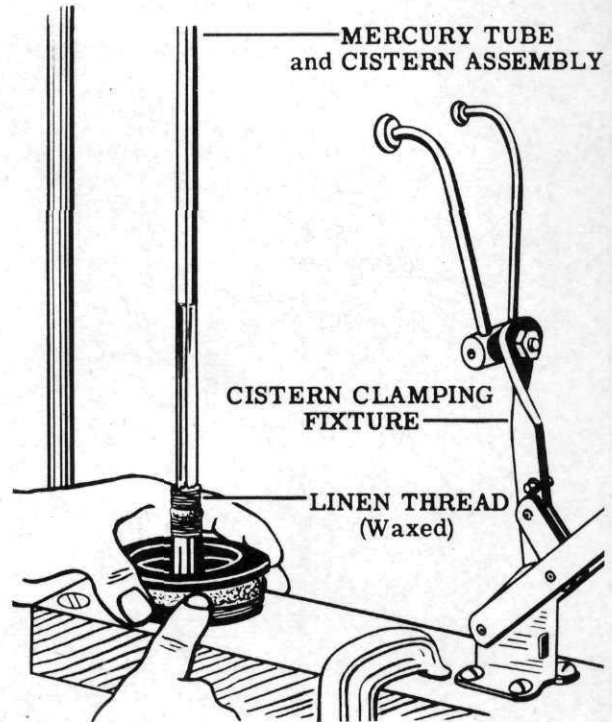

Figure 55
70. Release the pressure applied by the double-pronged clamp on the cistern assembly. Then slacken the clamp holding the mercury tube. Lift the top cistern and carefully check for signs of leaks all around the cistern seal. See Fig. 55.